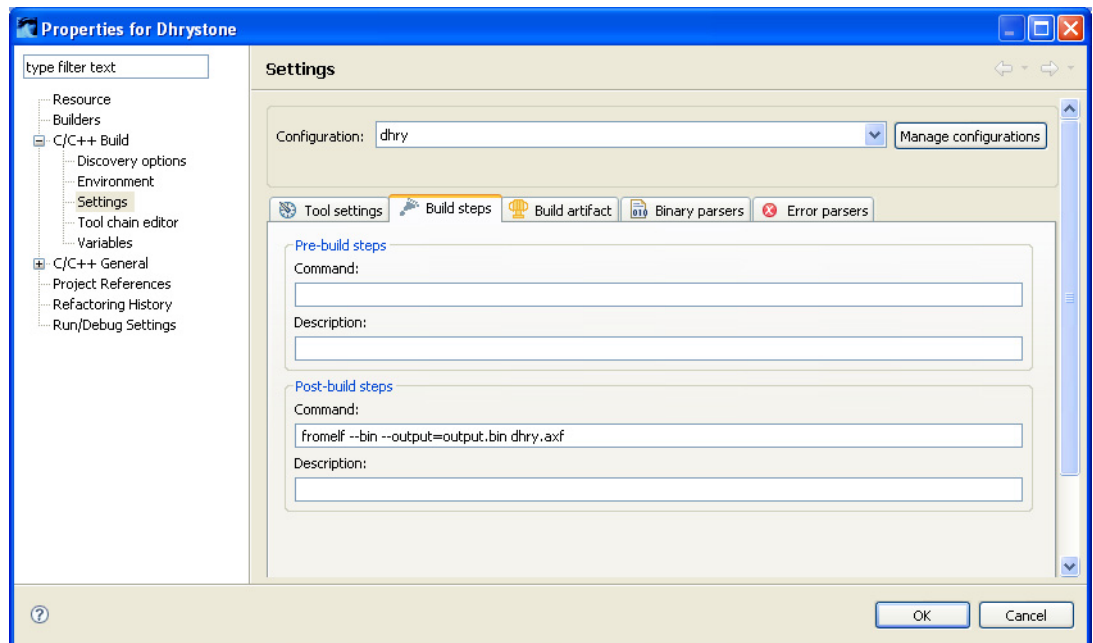

Figure 4-2 Calling fromelf from the workbench
3. In the Command field of the Post-build step, enter `fromelf --bin --output=output.bin inputfile`, where *inputfile* is the name of the ELF image. See Figure 4-2.